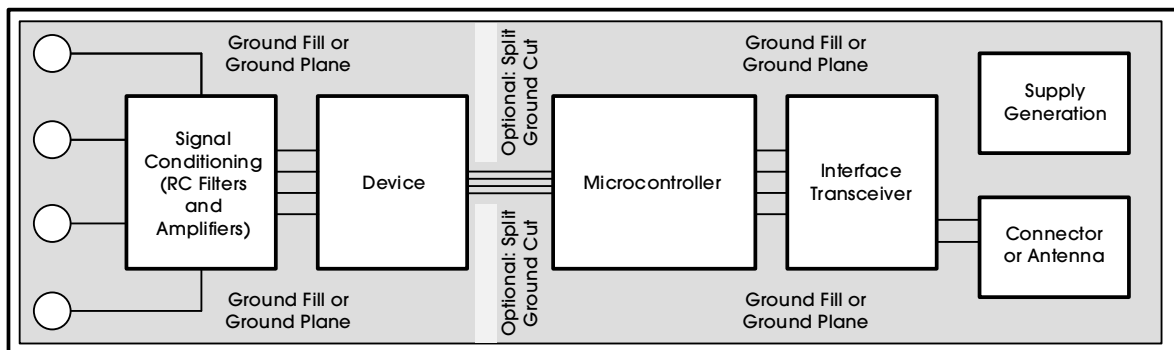

Figure 38. System Component Placement
It is suggested to employ best design practices when laying out a printed-circuit-board (PCB) for both analog and digital components. This recommendation generally means that the layout separates analog components (such as ADCs, amplifiers, references, digital-to-analog converters (DACs), and analog MUXes) from digital components (such as microcontrollers, complex programmable logic devices (CPLDs), field-programmable gate arrays (FPGAs), radio frequency (RF) transceivers, universal serial bus (USB) transceivers, and switching regulators). An example of good component placement is shown in Figure 38. Although Figure 38 provides a good example of component placement, the best placement for each application is unique to the geometries, components, and PCB fabrication capabilities employed. That is, there is no single layout that is perfect for every design and careful consideration must always be used when designing with any analog component.